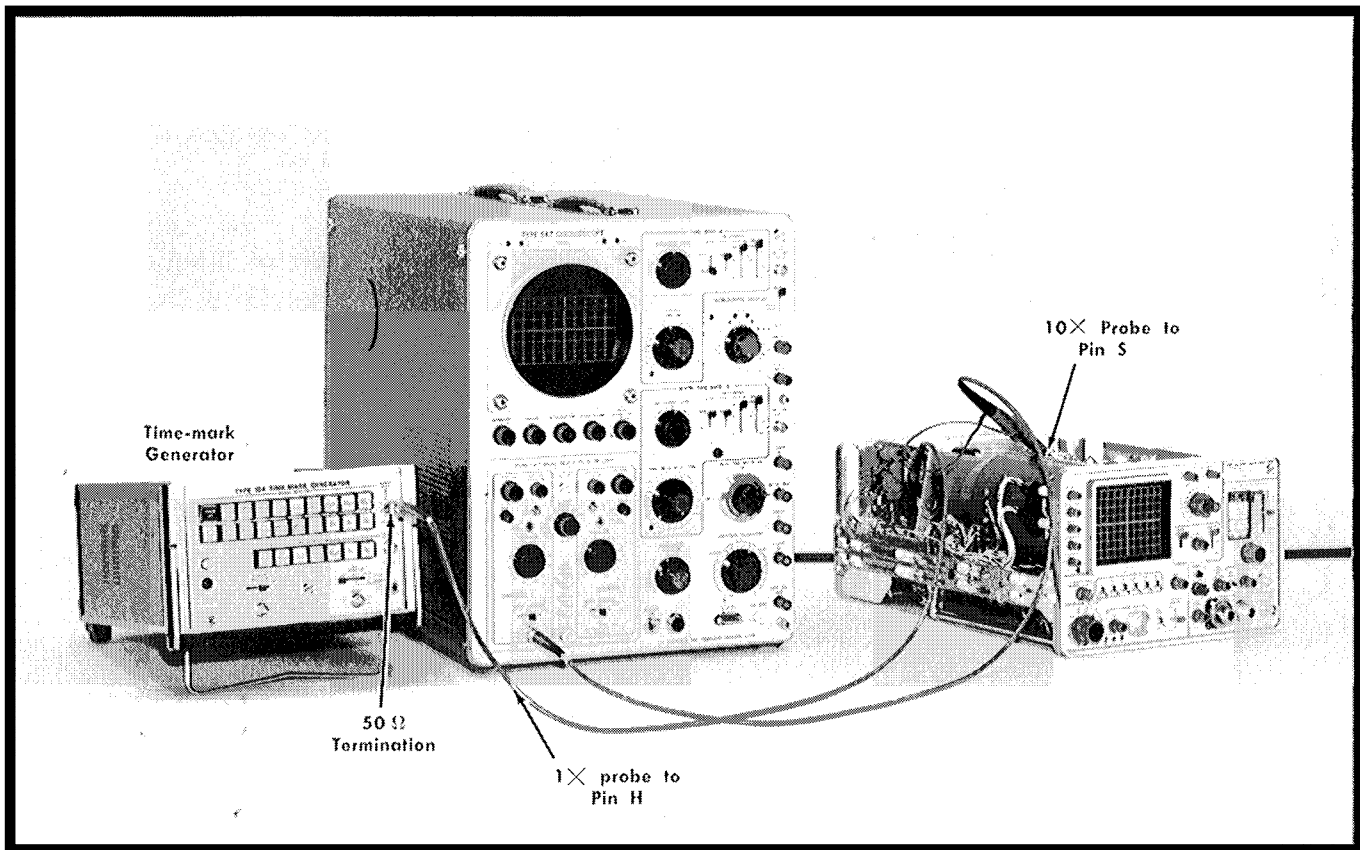

Fig. 6-14. Equipment setup to check and adjust sweep circuits, Steps 12 through 20.
①
- Equipment setup is given in Fig. 6-14.
- Test equipment setup is given in Fig. 6-14.